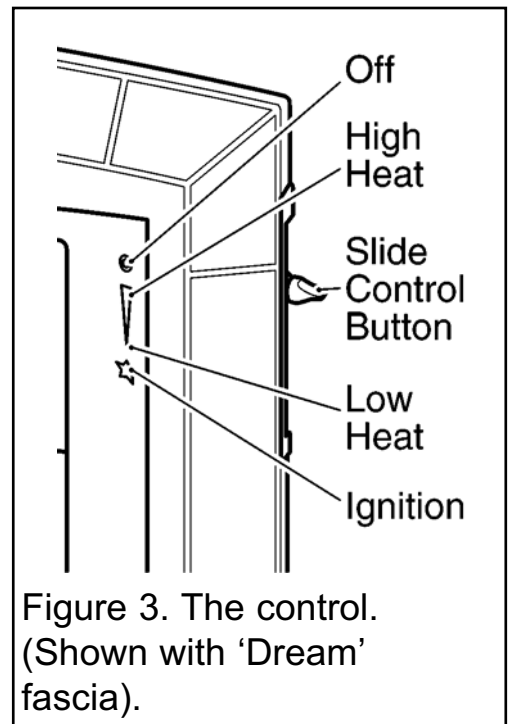

Figure 3. The control. (Shown with 'Dream' fascia).
The slide control is shown in figure 3.
3. If low heat is required, release the button. The button will automatically spring up to the low heat position shown in figure 3 (See note i below). If for any reason the slider control does not spring up, raise the slider to the off (O) position (Topmost position) and contact your installer.
4. For a higher heat level slide the button upwards. The burner flames and heat output will gradually increase until the button reaches the high heat position shown in figure 3. When the button reaches the high heat position you will feel a check to its movement. **Do not slide the button above the high heat position unless you want to turn the fire off** (See note i below).